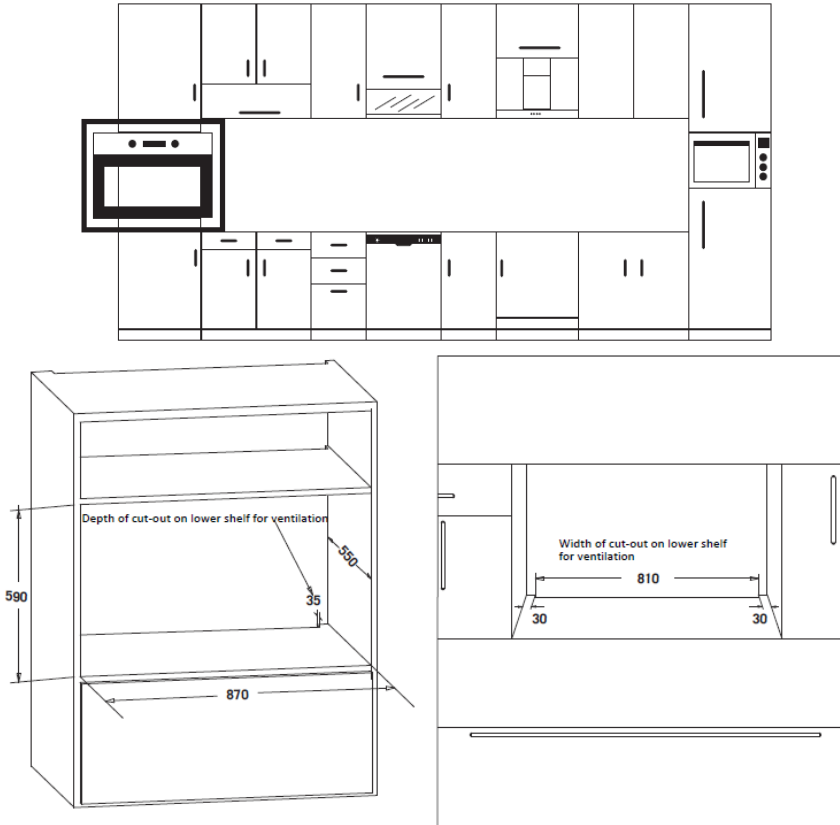

Figure 2
- Cabinet must match the dimensions provided in figure 2 on earlier pages